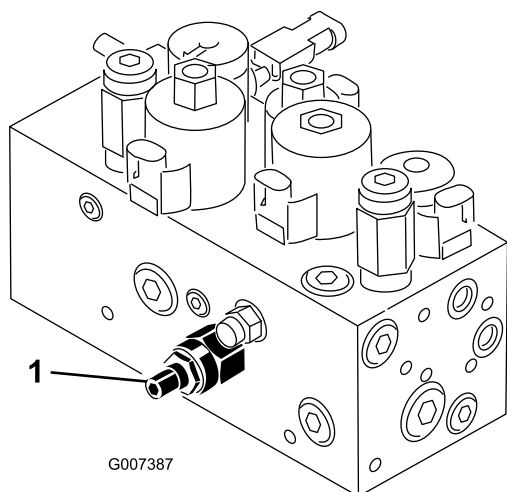

Figure 46
The cutting unit lift/drop circuit comes with a flow-control valve (Figure 46). This valve is preset at the factory at approximately 3 turns open, but you may need to adjust it to compensate for differences in hydraulic fluid temperatures, mowing speeds, etc.
1. Raise the seat and locate the flow-control valve for the center-pull frame (Figure 46), which is located on the side of the hydraulic manifold.